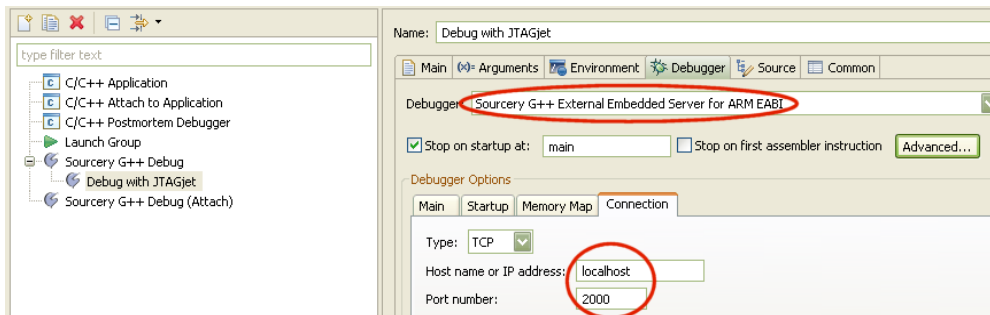

FIGURE 2 Selecting External Embedded Server and connection parameters.
2. In the newly created “Debug with JTAGjet” configuration, open the Debugger tab. In the Debugger drop-down menu, select Sourcery G++ External Embedded Server for ARM EABI. In the Debugger Options group, open the Connection tab and specify the host name and a port number for the GDB server (**Figure 2**).